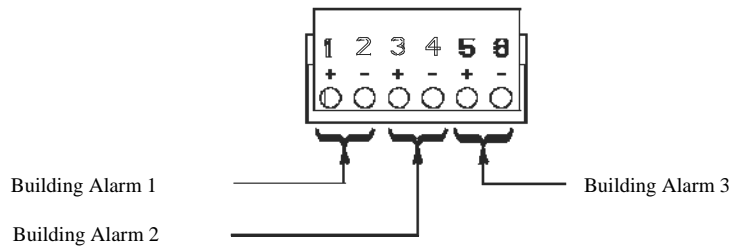

Figure 4-8. Building Alarm Terminal Block Connector Assignments
3. External input signal cables can enter the UPS via left, right side panel or a knockout in the top of the cabinet, see Figure 4-8.